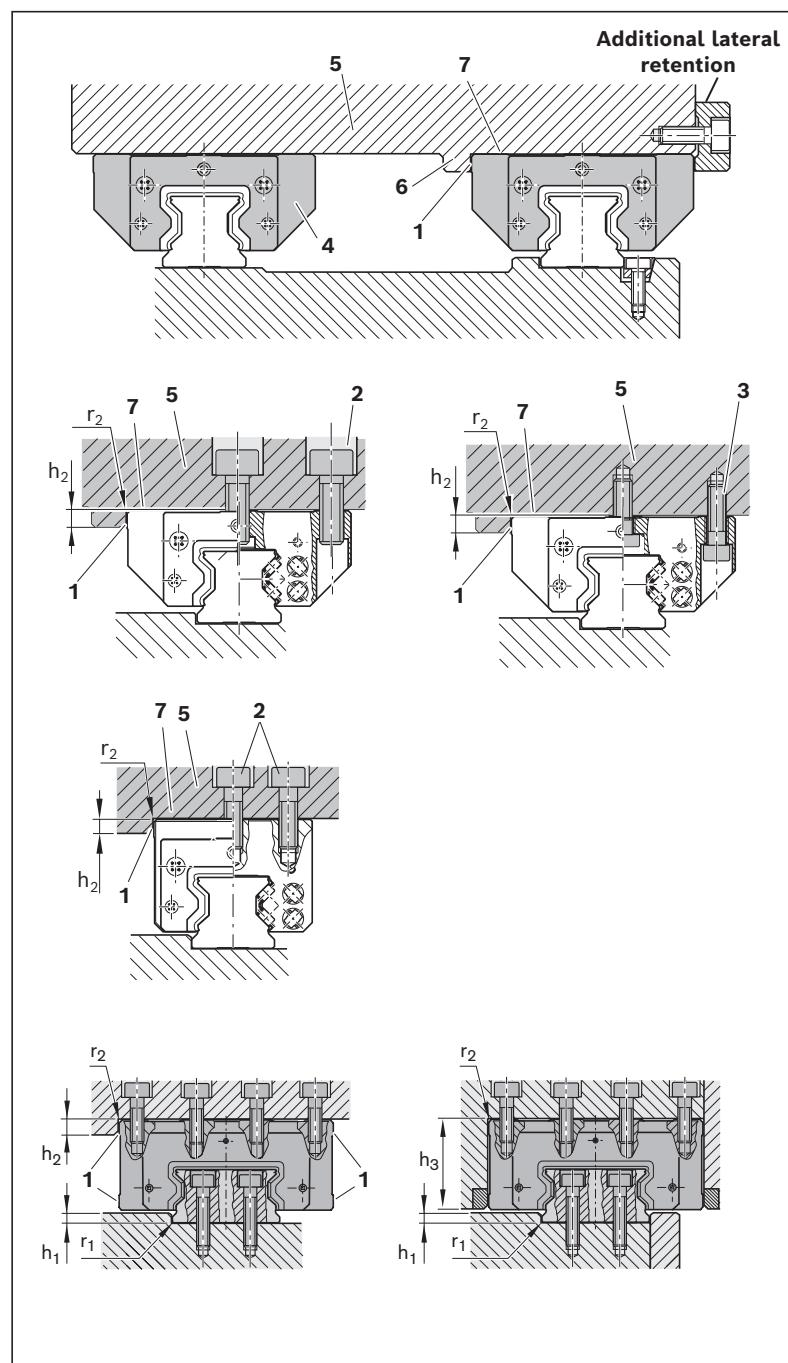

Fig. 55: Mounting attachments to runner blocks
1. Lay the attachment (1) down on a non-slip surface (2).
5. If required, press the runner block against the reference edge (3) and mount additional lateral retention  $\Rightarrow$  Fig. 55.